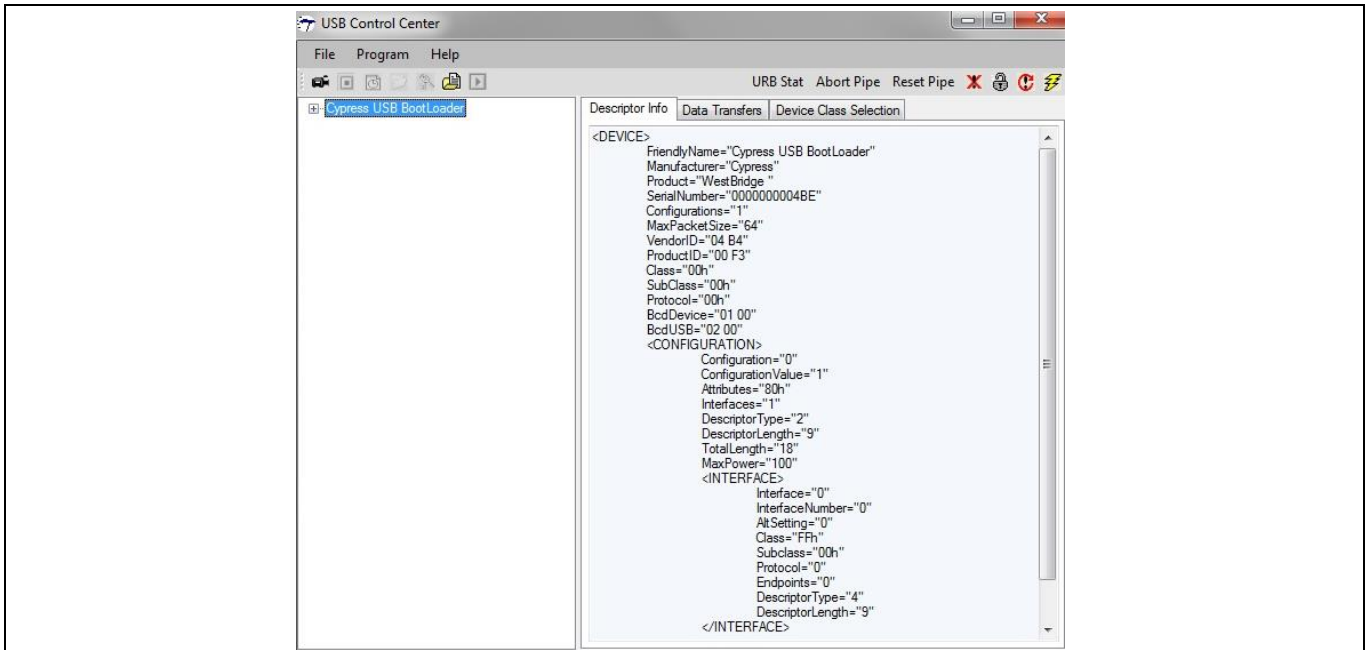

Figure 30 Cypress USB BootLoader enumeration in Control Center
- When connected to a USB Host, the FX3 device enumerates in the Control Center as “Cypress USB BootLoader, as shown in **Figure 30**.